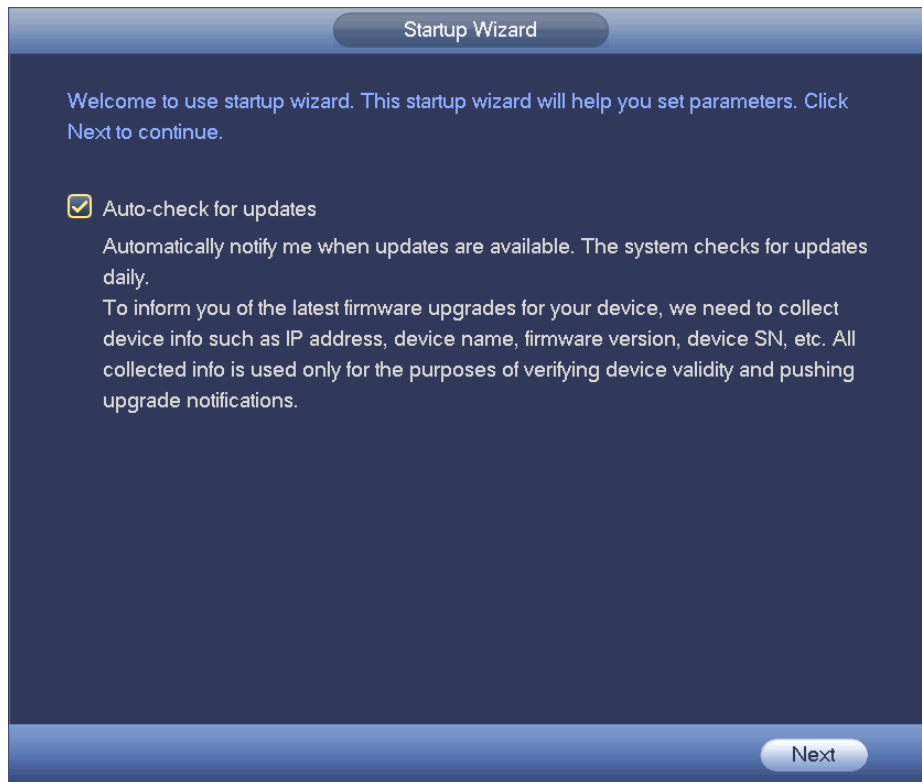

Figure 4-13
- Startup wizard: After initialize the device, system goes to the End-User License Agreement (EULA) interface. Check the box to agree the EULA. Click Next button to enter startup wizard if it is your first time to login. See Figure 4-13.